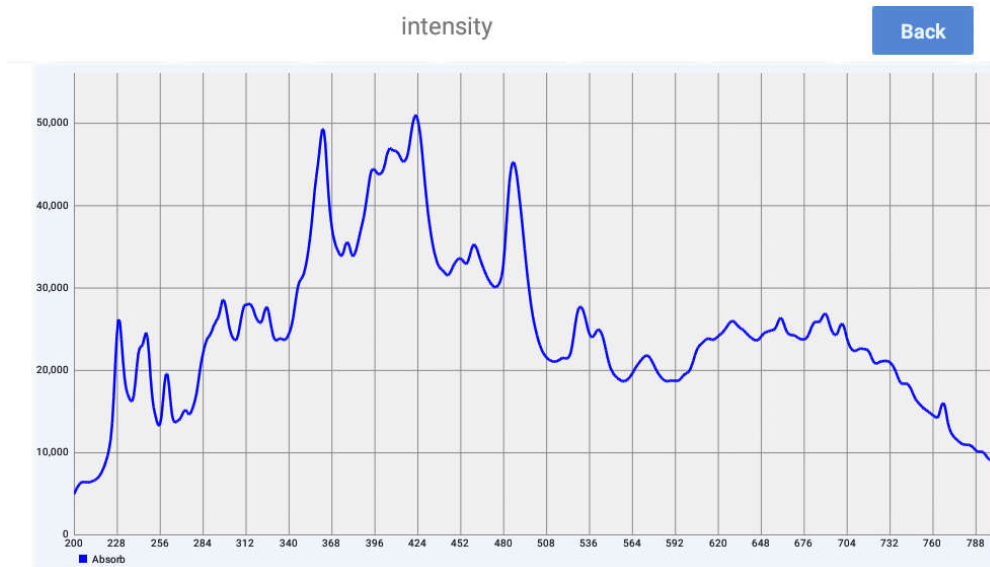

Fig 4.36 The sample light intensity
③ After blank detection, click **Sample** and then **Sample data** will be available. Click it enter the interface as Fig 4.36. It shows the light